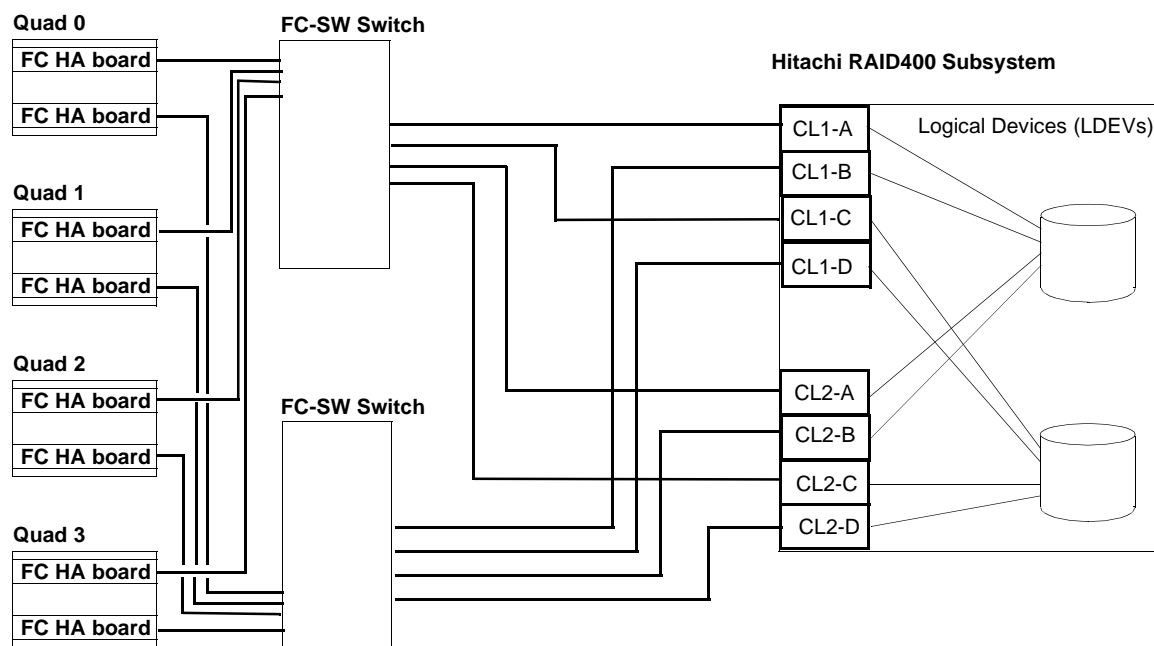

Figure 6-2.
- Figure 6-2 shows cabling for a typical switched fabric (FC-SW) Fibre Channel connection to an IBM NUMA-Q host system.